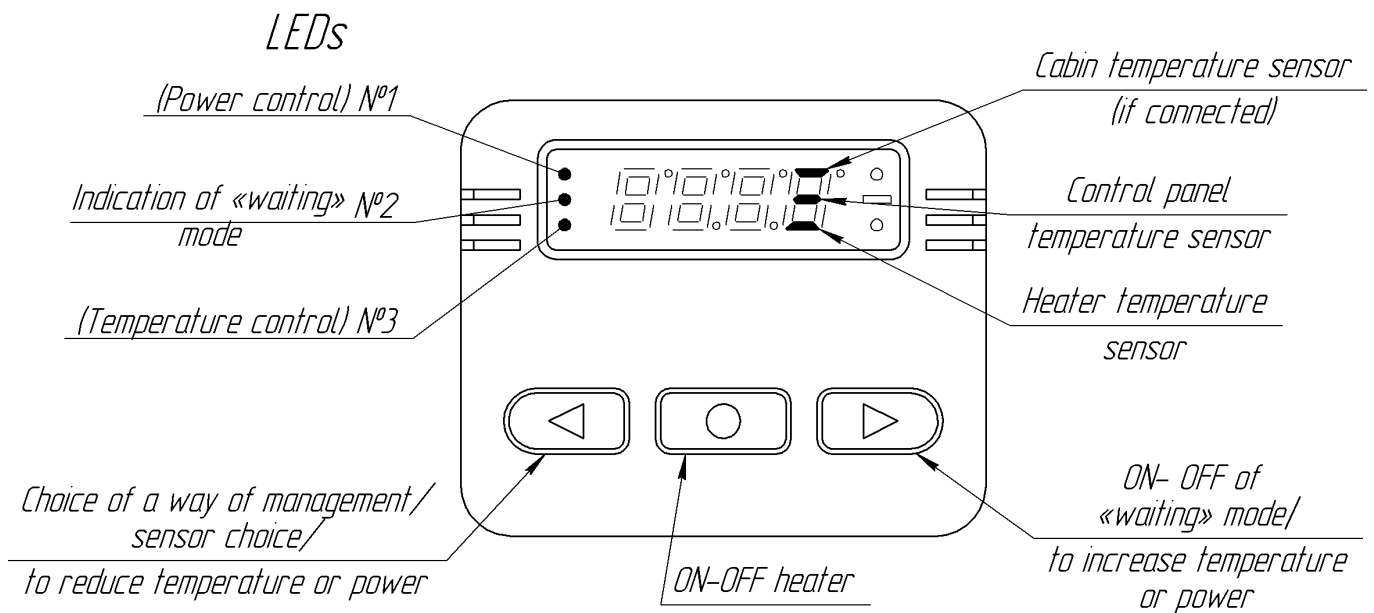

Fig. 6.2- Control panel «IIY-16M»
6.2.1 The front board of the panel contains: four-digit light emitting diode (LED) indicator, three LEDs and three knobs. Functionality of the knobs and LEDs. (fig.6.2)
While first time the heater is connected to electric circuit of the car or after breaks of power supply, according to environmental temperature there will be following information on the panel (for example)- the temperature in the area of the sensor installed in the heater is -12°C , if the temperature in the area of the sensor is above zero, there will be no "mines" before the figure. Movement according to the main menus is carried out by the button « \leftarrow » (fig.6.2)